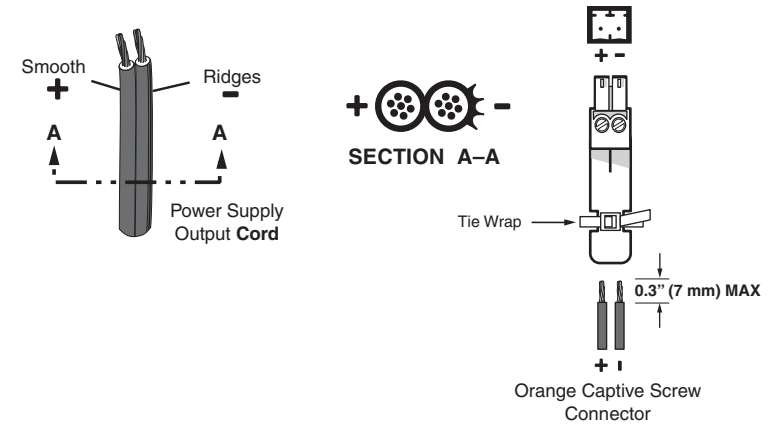

Figure 12 — Power connector wiring
- 10 **Power connector** — Plug the external 12 VDC power supply into this 2-pole captive screw connector. The power supply is included with the unit. Figure 12 shows how to wire the connector.
**CAUTION** Power supply voltage polarity is critical. Incorrect voltage polarity can damage the power supply and the MDA. Identify the power cord negative lead by the ridges on the side of the cord (figure 12).